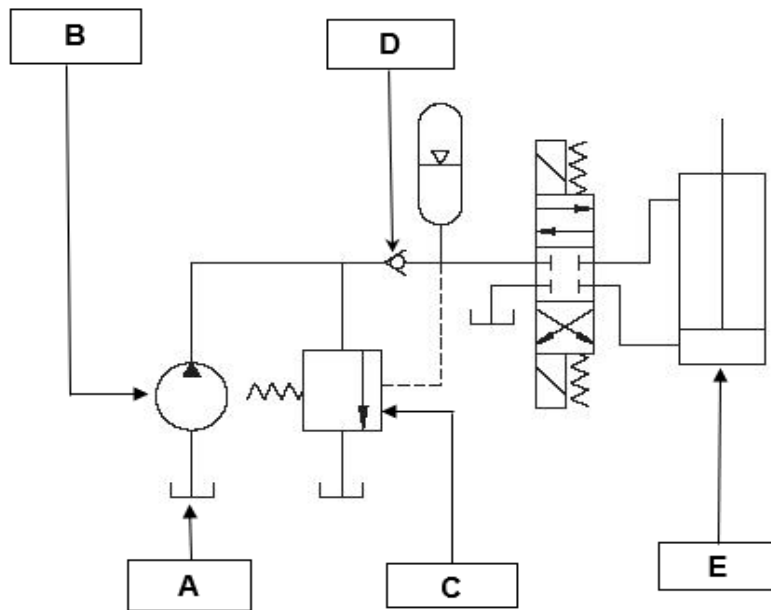

FIGURE 3
- 10.3 FIGURE 3 below shows a hydraulic circuit. Name the parts labelled (A–E). Write only the answer next to the letter (A–E) in the ANSWER BOOK.